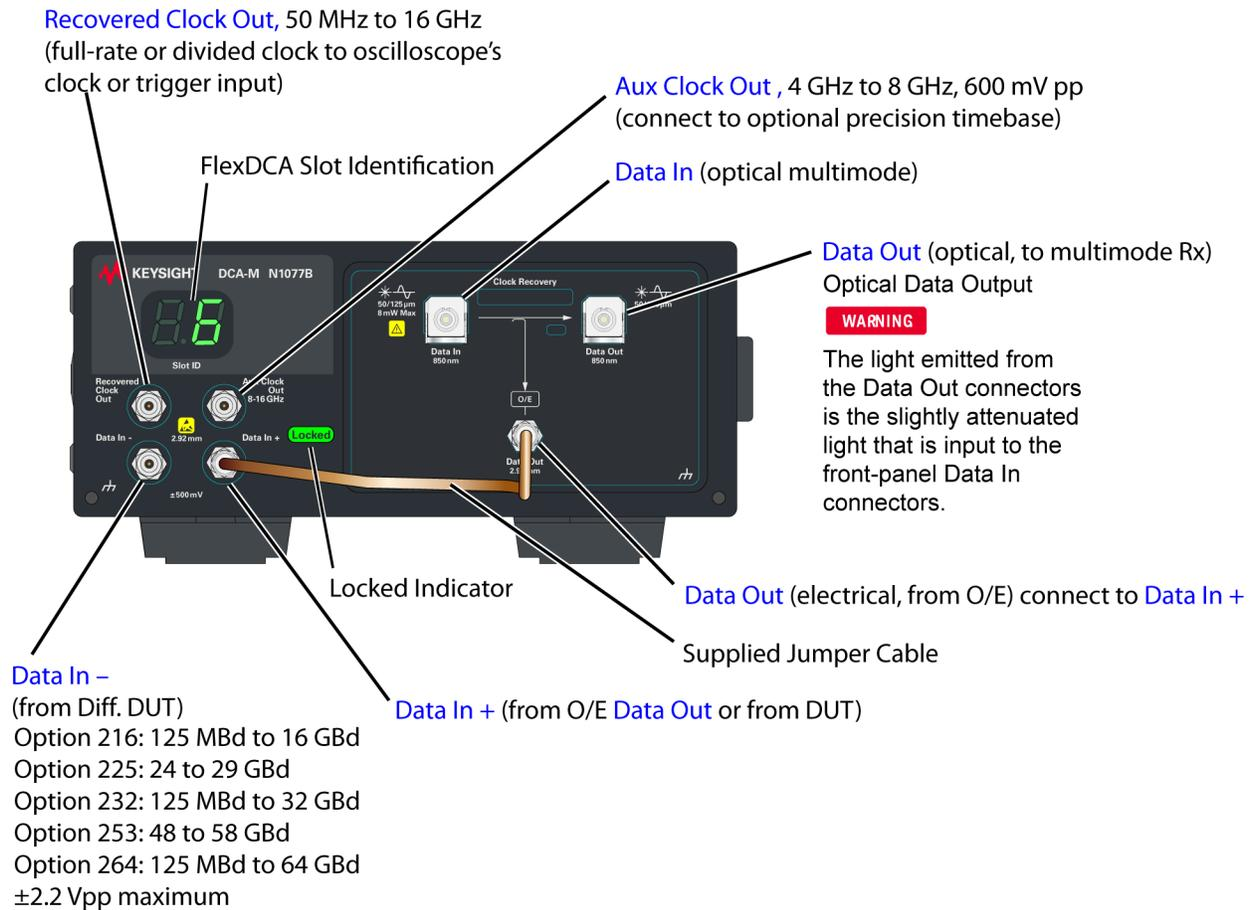

Figure 45. N1077B-SMM Front-Panel Connectors
Figure 44 on page 89 and *Figure 45 on page 90* show the N1077B-SXT and N1077B-SMS module front-panels. Both model options have single-mode optical connectors. Option SXT modules do not have an internal optical splitter. Option SMS models include an internal optical splitter (50%). The optical internal splitter provides a slightly attenuated input signal at the optical **Data Out** connectors. This output can be used for input to a receiver module or other test equipment.
1. Confirm that the input signal meets the baud rate and amplitude requirements shown in *Figure 44 on page 89* and *Figure 45 on page 90*. In this procedure, the following assumptions are made for simplicity. You can change these parameters to any acceptable values.
- b. Connect the supplied semi-rigid coaxial jumper cable between the front-panel **Data Out** and **Data In +** connectors as shown in *Figure 45 on page 90*.